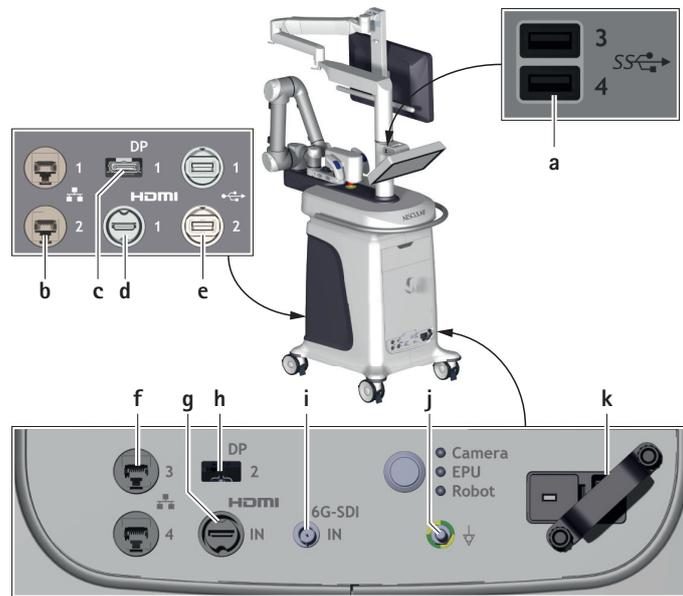

Fig. 4
- ▶ Connect the device to the SDI input port i at the front of the base, see Fig. 4.
- ▶ Connect the healthcare facility potential equalization system to the potential equalization pin j at the front of the base, see Fig. 4.
- ▶ Connect an Ethernet cable to one of the Ethernet ports b or e to link the system with the facility PACS server, see Fig. 4.
- ▶ Connect the display to the DisplayPort output port c respectively to HDMI d at the back of the base or h at the front of the base, see Fig. 4.